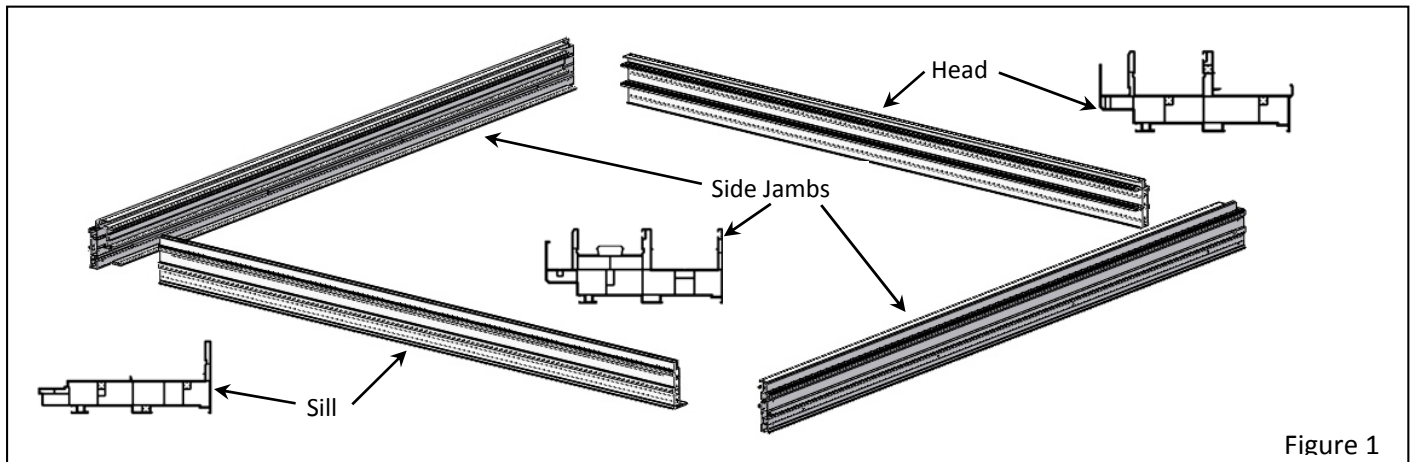

Figure 1
- 2) Remove all parts and pieces from the vinyl head, sill, and side jambs. Lay the frame pieces out with the exterior side up, arranged in the order they will be assembled (Fig. 1).